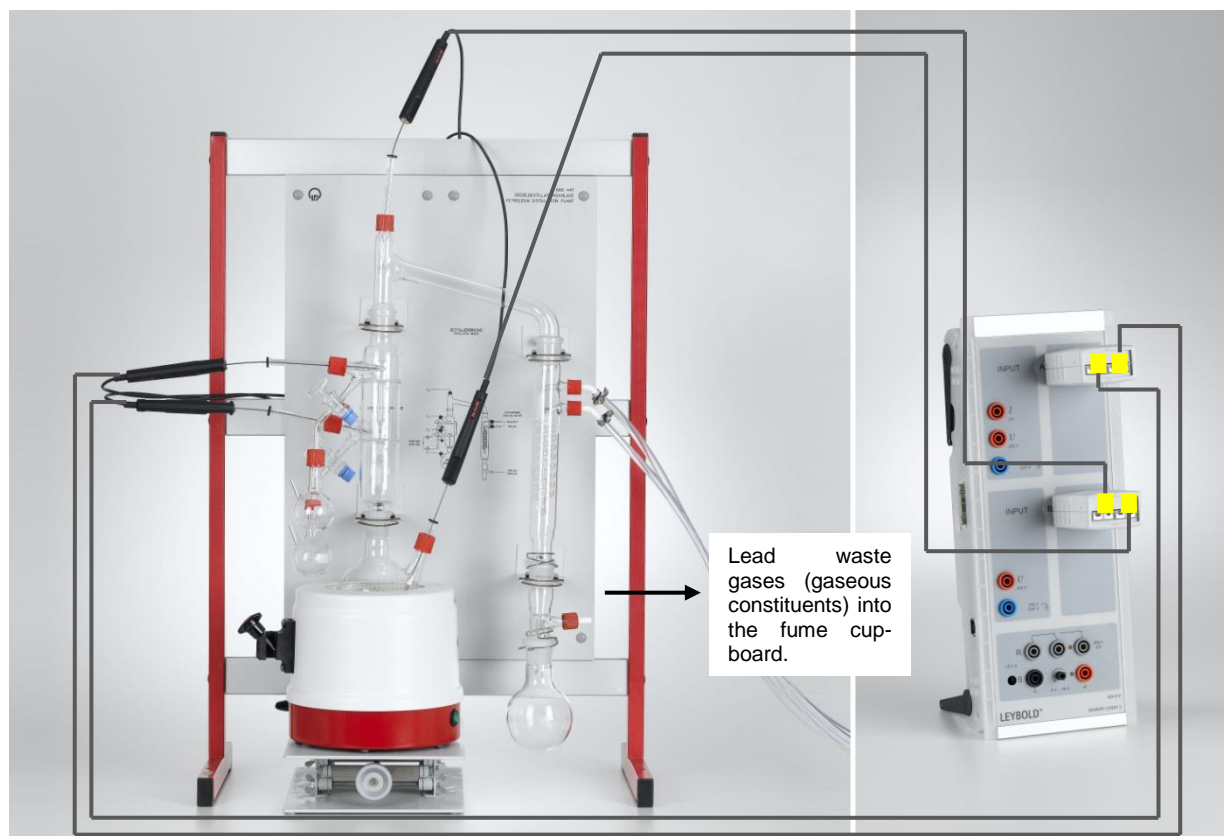

Fig. 1: Construction of the bubble tray column. Sketch of the connections to Sensor-CASSY 2 and to the waste gas line in a fume cupboard.
5. If the apparatus is not in a fume cupboard: attach a tube to the side tap of the feed and secure using a hose clip in order to lead the waste gases into a fume cupboard (see Fig. 1).
7. Now insert the four temperature probes into two NiCr-Ni adapters S and connect these to the A and B inputs on the Sensor-CASSY 2 (see Fig. 1).